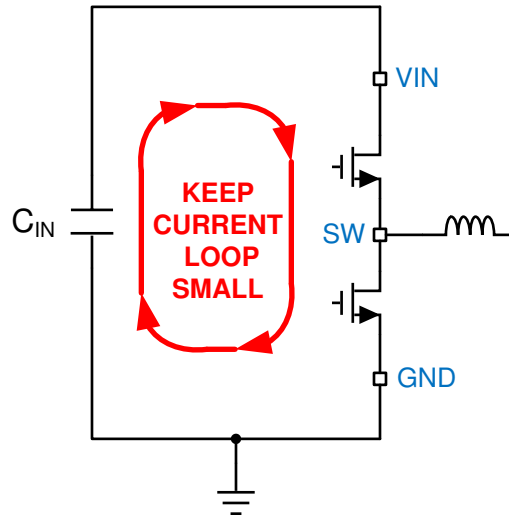
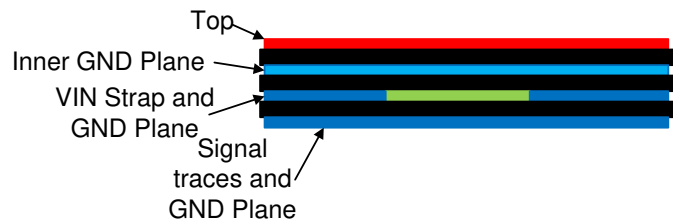

图 51. Current Loops with Fast Edges
图 53. Example Layout for VQFN Package
The PCB layout of any DC/DC converter is critical to the optimal performance of the design. Bad PCB layout can disrupt the operation of an otherwise good schematic design. Even if the converter regulates correctly, bad PCB layout can mean the difference between a robust design and one that cannot be mass produced. Furthermore, the EMI performance of the regulator is dependent on the PCB layout, to a great extent. In a buck converter the most critical PCB feature is the loop formed by the input capacitor(s) and power ground, as shown in Figure 51. This loop carries large transient currents that can cause large transient voltages when reacting with the trace inductance. These unwanted transient voltages will disrupt the proper operation of the converter. Because of this, the traces in this loop should be wide and short, and the loop area as small as possible to reduce the parasitic inductance. Figure 52 and Figure 53 show recommended layouts for the critical components of the LMR33620.
1. **Place the input capacitor(s) as close as possible to the VIN and GND terminals.** VIN and GND pins are adjacent, simplifying the input capacitor placement. With the VQFN package there are two VIN/PGND pairs on either side of the package. This provides for a symmetrical layout and helps to minimize switching noise and EMI generation. A wide VIN plane should be used on a lower layer to connect both of the VIN pairs together to the input supply; see Figure 53.